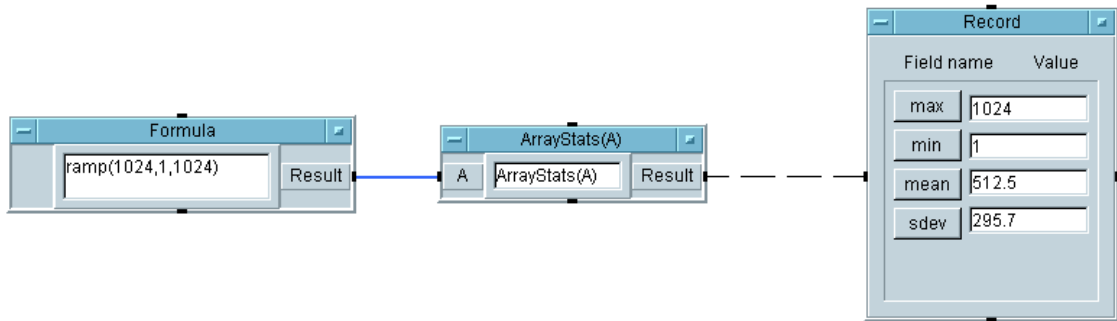

Figure 8-8. Generating a Call Object ArrayStats(A) from a UserFunction
3. Place the object in Main. Notice that VEE automatically names the new object `ArrayStats (A)` and includes the expression `ArrayStats (A)` to call the UserFunction `ArrayStats`.
4. Connect the output from the `Formula` object to `ArrayStats (A)`, and connect the output from `ArrayStats (A)` to `Record`.
5. Run the program. It should look like Figure 8-8.